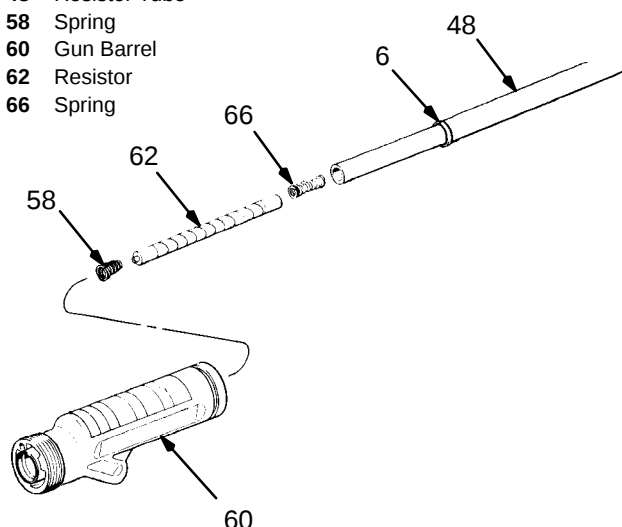

Fig 11
2. Using a megohmmeter, check the resistance of the resistor (62) from the end of the spring (58) to the end of the high voltage cable. The resistance should be 225 megohms, ± 20 .
3. If the resistor (62) needs replacement, pull out the spring (58) and the resistor (62) from the resistor tube (48). See Fig 11.
4. When replacing the resistor (62) the plugged end of the resistor must face toward the back part of the gun barrel (60). Be sure that the spring (66) is in the tube (48).